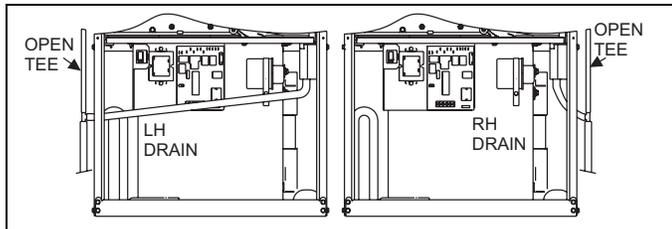

FIGURE 23: Condensate Piping
3. **VENTILATED COMBUSTION AIR: (Modular Homes:** Not approved for installation in HUD approved homes). Combustion air is supplied through a PVC or ABS pipe that is connected to the PVC coupling attached to the burner box and is terminated in a ventilated attic or crawl space. The combustion air and the vent pipes are not terminated in the same atmospheric zone. Refer to Figure 23 for attic and crawl space termination. Only the combustion air intake may terminate in the attic. The vent must terminate outside.
Refer to Figure 23 for required attic termination for the combustion air intake pipe. For attic termination, use two 90 elbows with the open end in a downward position. Be sure to maintain 12" (30 cm) clearance above any insulation, flooring or other material.